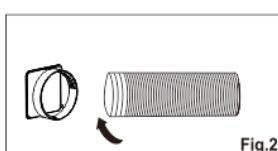

Fig.2
- 1 .Extend either side of the hose [Fig.1]and screw the hose inlet [Fig.2].